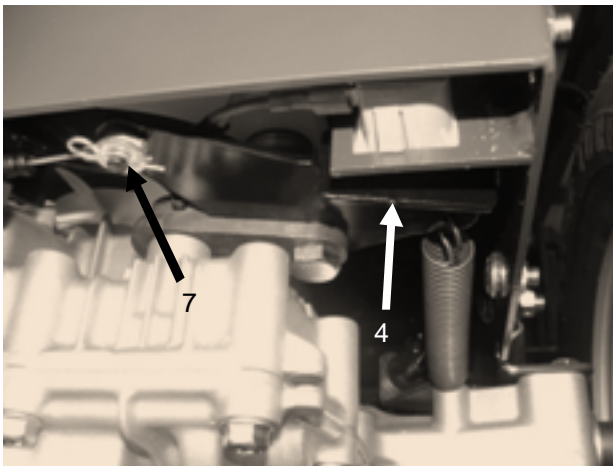

Figure 48
4. Pull brake arm located under the lower right hand side of machine **Figure 48**.
7. Remove the hairpin cotter and washer **Figure 48**.